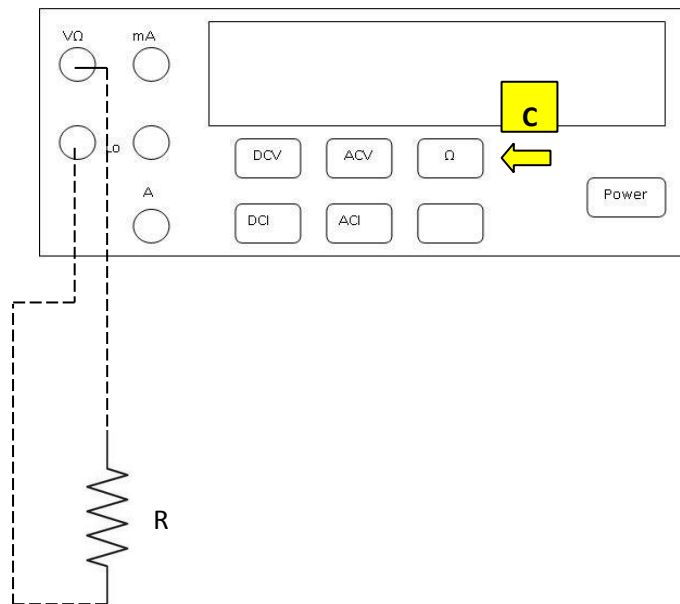

Figure 1b. Connecting the multimeter to the resistor.
1. Connect the resistor to as shown in Figure 1b below.
3. Press button **C** indicated in Figure 1b to measure the resistance.